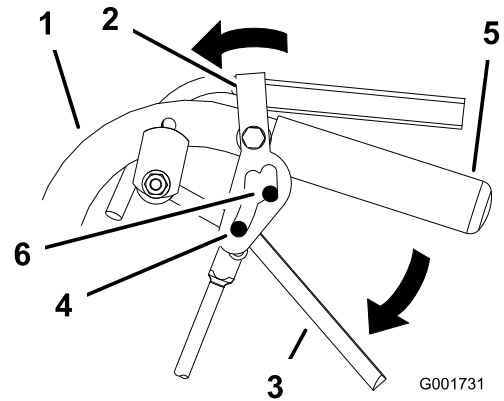

Figure 11
2. Place your thumbs on the upper part of the locks and move them forward until the pins are in the forward slot (Figure 11).